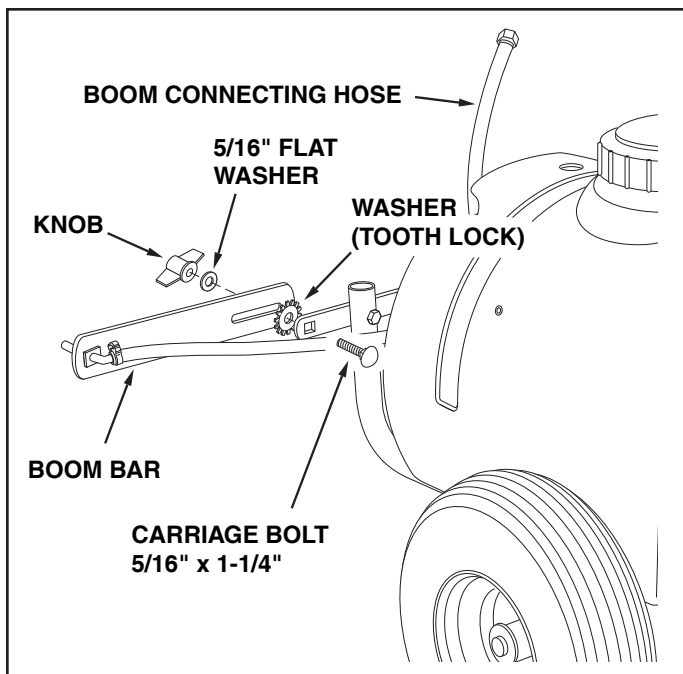

**FIGURE 5**
10. Assemble the boom mount bracket to the rear of the frame tubes using two 5/16" x 2" hex bolts and 5/16" nylock nuts. See figure 5.